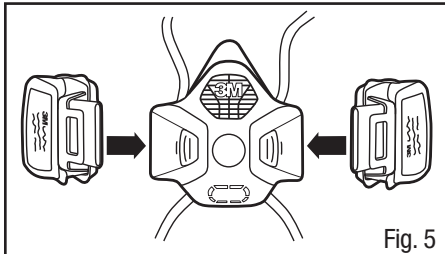

Fig. 5
1. Align the port end of the cartridges with the ports on the facepiece (Fig. 5).